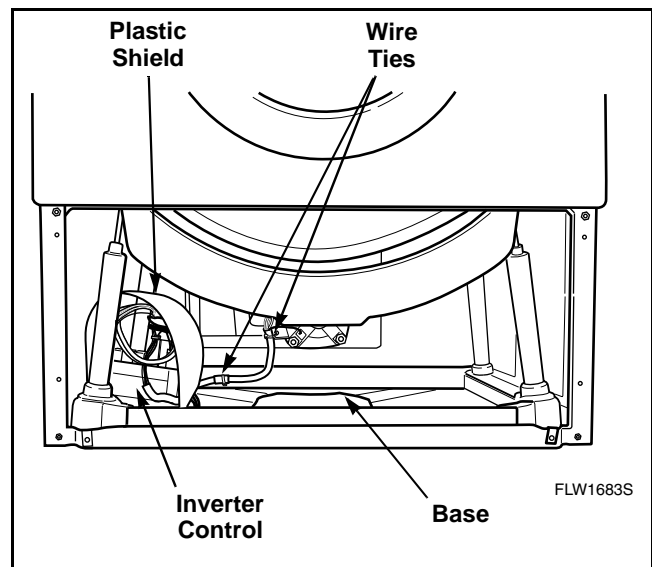

Figure 37
- Remove screws holding inverter control to base of washer. Refer to *Figure 37*.
- Position the new inverter control on base of washer as shown in *Figure 37*. Reinstall screws (removed in Step “f”) and tighten firmly.
- Secure wires to base and motor using new wire ties. Refer to *Figure 37*.